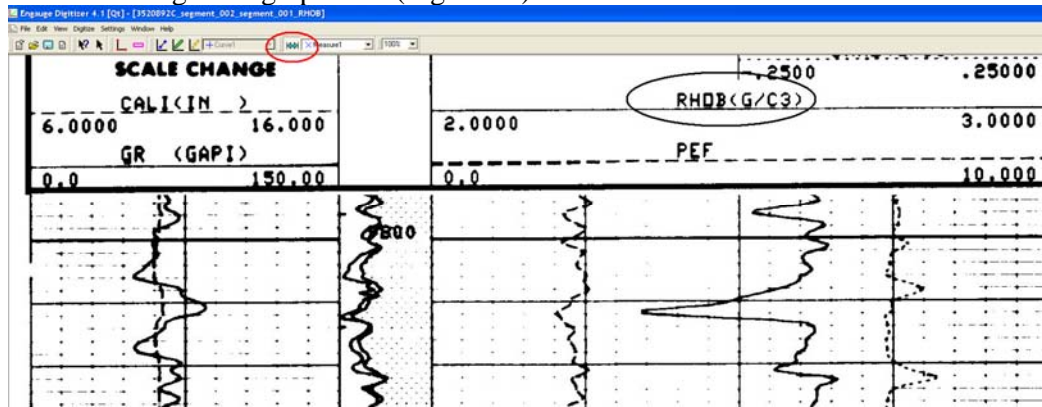

Figure 10, Measure Point button as shown by the red ellipse
- a. Click on the Measure Point button before entering curve points. These will contain the digitized graph data.(Figure 10)